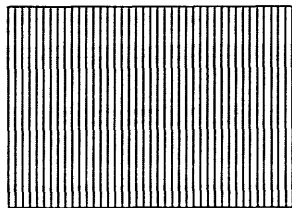

Fig.1
**a) Vertical stripes (Fig.1)**